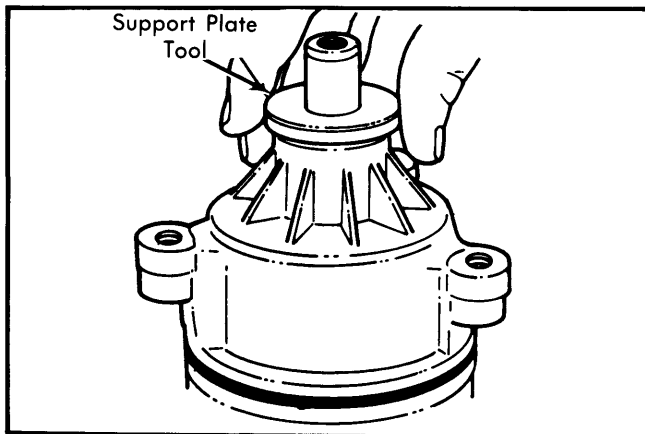
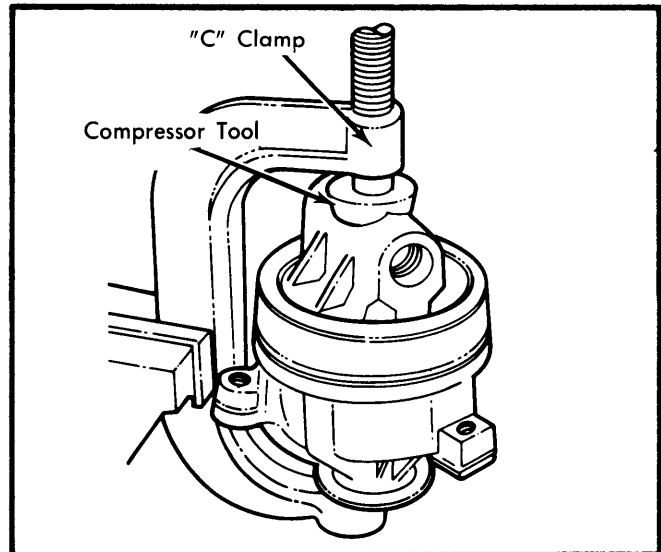

Fig. 1 Installing Lower Support Plate Tool
Fig. 2 Installing Compressor Plate Tool
Disassembly – 1) Remove pulley from pump. Remove outlet fitting, flow control valve, spring and reservoir. Place a "C" clamp in vise. See Fig. 2.
2) Install lower support plate tool (T78P-3733-A1) over pump rotor shaft. See Fig. 1. Install upper compressor plate tool (T78P-3733-A2) into upper portion of "C" clamp. Holding the upper tool, place the pump assembly into "C" clamp with rotor shaft facing down. See Fig. 2.